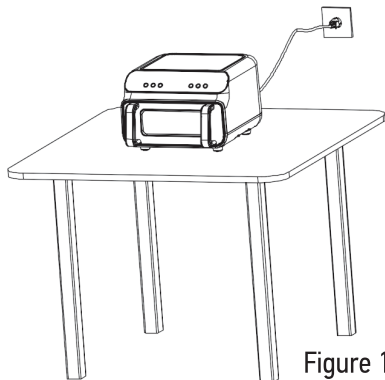

Figure 1
- 01.** The product should be placed on a stable and flat surface. Please plug one end of the power cord into the mains socket (as shown in Figure 1), and make sure that you maintain the product regularly. Adequate device ventilation must be present. Furthermore, make sure that no flammable material are in the vicinity of the device.